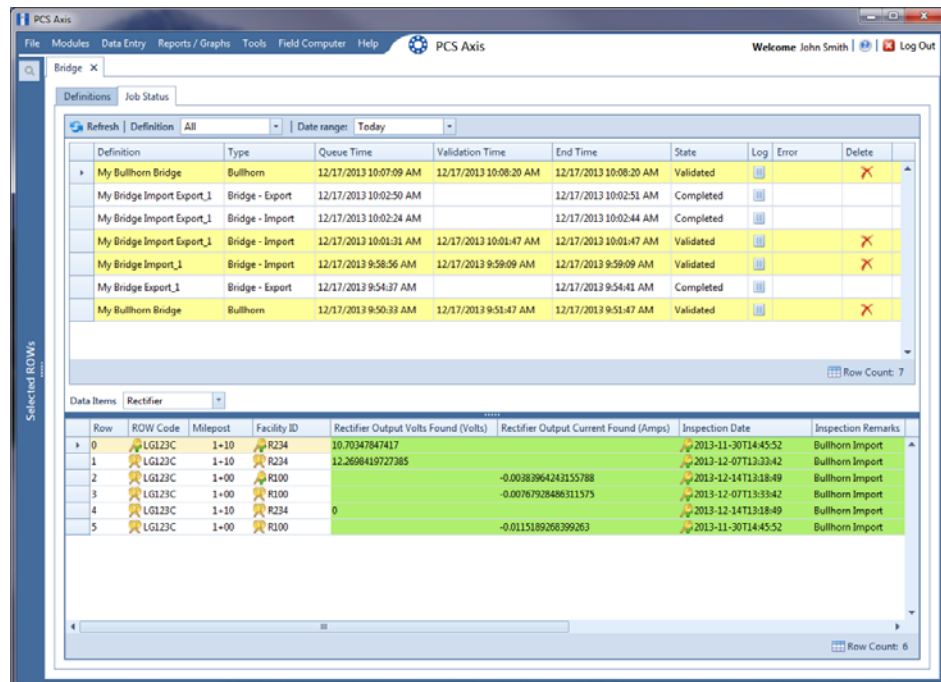

Figure 10-48. Job Status
- 16 To view the status of a Bridge session, click  **Job Status** in the *Definitions* window to open the *Job Status* window (Figure 10-48). Clicking  **Log** for a Bridge session opens the log file for the selected session.